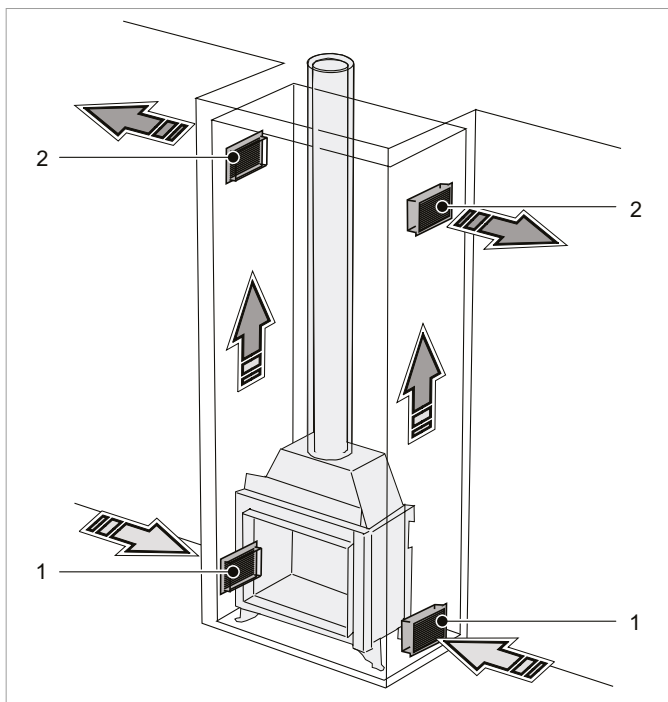

Figure 16: Housing gas fire without convection casing
5. Mount the restriction plate in the eyes of the inner wall of the pipe opening (see Fig. 16).